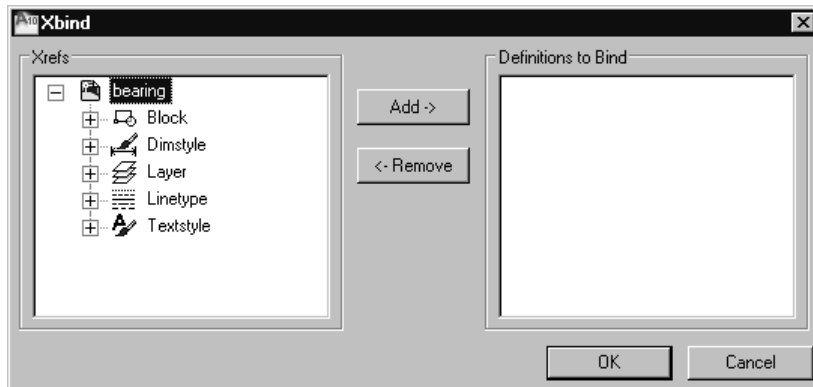

Figure 18-27 The Xbind dialog box
5. Now, invoke the **XBIND** command. The **Xbind** dialog box is displayed on the screen. This dialog box has two areas with list boxes. They are **Xrefs** and **Definitions to Bind**. If you want to bind the blocks defined in the xref drawing Bearing, first click on the plus sign adjacent to the xref Bearing. Icons for named objects in the drawing are displayed in a tree view (Figure 18-27). Click on the plus sign next to the Block icon. AutoCAD lists the blocks defined in the xref drawing (Bearing). Select the block Bearing|SIDE and then choose the **Add** button. The block name will be added to the **Definitions to Bind** area list box. Choose **OK** to exit the dialog box. AutoCAD will bind the block with the current drawing and a message at the command line is displayed: **1 Block(s) bound**. The name of the block will change to Bearing\$0\$SIDE. You can invoke the **Block Definition** dialog box using the **BLOCK** command and check the **Name** drop-down list to see if the block with the name Bearing\$0\$SIDE has been added to the drawing. If you want to insert the block, you must enter the new block name (Bearing\$0\$SIDE). You can also rename the block to another name that is easier to use.